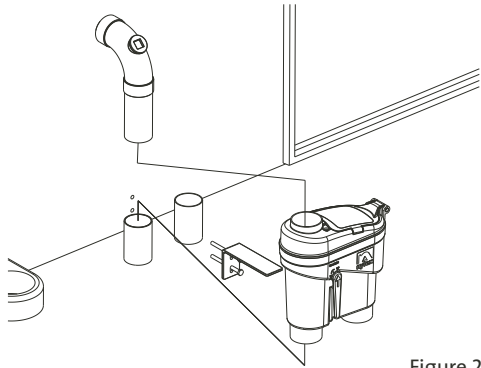
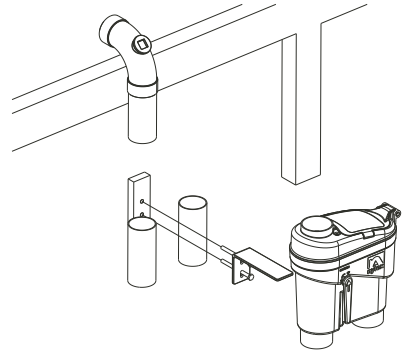

Figure 2
Figure 3
4. The Greywater Diverta™ must be supported by a solid structure using a suitable support bracket so the weight of the product is on the bracket and not the wastewater pipe (see Figure 2). In situations where there is no suitable solid structure to secure the unit to, as might be the case for developments with limestone or timber stump footings, use a rigid steel channel or similar set into a concrete base for mounting the bracket (see Figure 3).